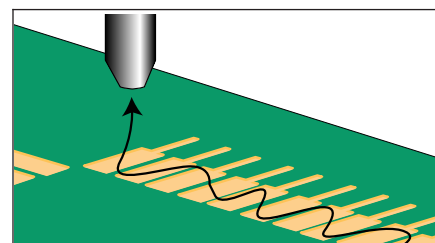

Figure 5 Lift Hand Piece
9. Lift tip at end of last row, hold vacuum to clear all molten solder from the heater chamber. (See Figure 5.)